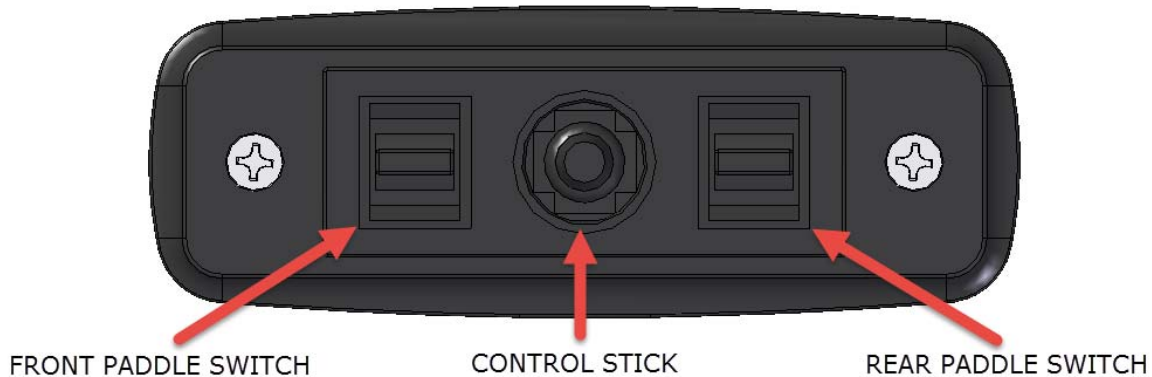

Figure 2: Manual Control Panel
1. Using the front paddle switch, the control stick, and the rear paddle switch (Figure 2), move the seat into the desired seating position. The seat adjust controls are as follows: